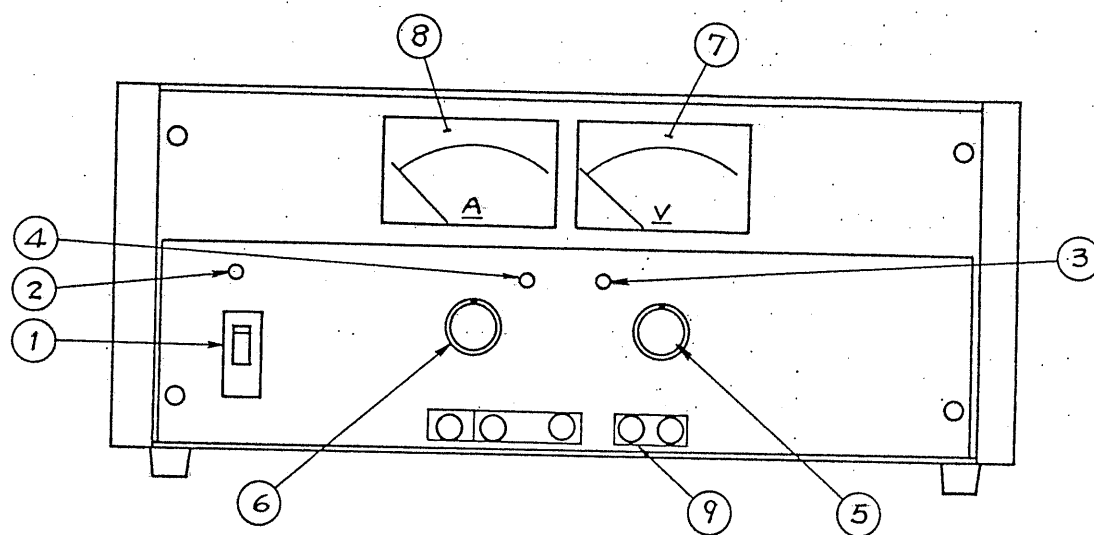

Fig. 3-1 Front Panel
3.1 Front Panel Description (See Fig. 3-1)
- ① POWER switch ON/OFF switch for the input power.